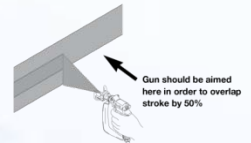

Figure 1
**How to Use a Wet Film Thickness Gauge:** A WFT gauge is designed to give the spray applicator immediate mil measurement of the film build just been sprayed. There are several types of WFT gauges available. The most common is the notch gauge (see figure 1). Other types of gauges available from specialty vendors include the eccentric disk, rolling notch, and the 6 sided.